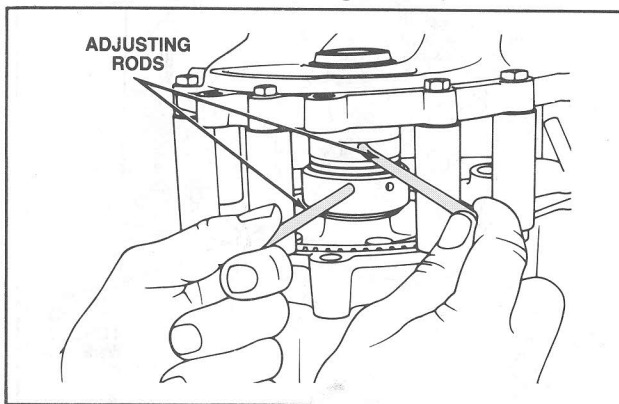

Figure 104 Spreading Shim Selector Collars
8. Using the adjusting rods supplied with Shim Selection Tool T87C-77000-J spread the shim selection tool collars. (Figure 104).